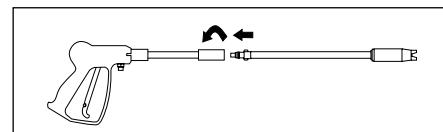

Figure 7 - Gun/Lance Connection
- Insert lance into the gun and turn clockwise to positive stop as shown in Figure 7.